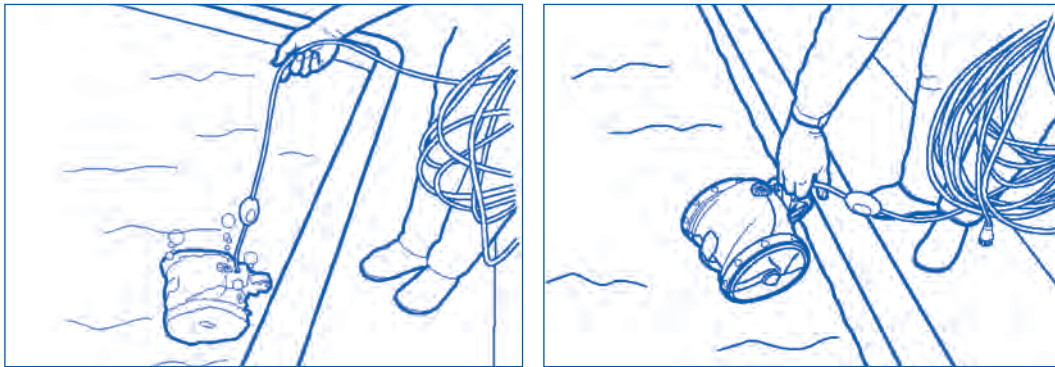

Figure 6
- Never remove the Vortex™1 from the pool using its floating cable. Always use the handle to remove the cleaner from the pool and let the water drain out from the cleaner by keeping it vertical (Figure 6).